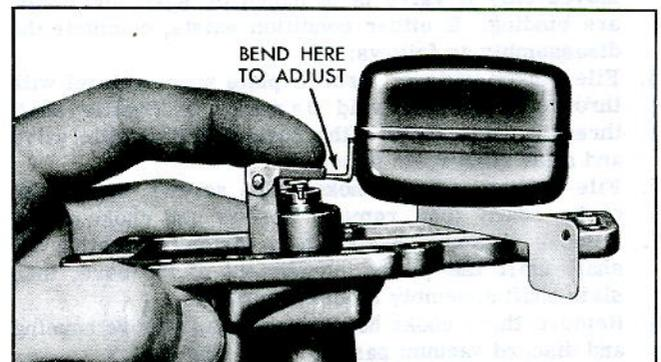

Fig. 31—Adjusting Float Level
- Invert cover and measure the distance between cover gasket surface and float at center of float (fig. 31). This FLOAT LEVEL dimension should be 5/8" or use Tool J-21056.
1. Loosen cover and measure the distance between cover gasket surface and float at center of float (Fig. 31). This FLOAT LEVEL dimension should be 2.75" (see Fig. 3-1100).